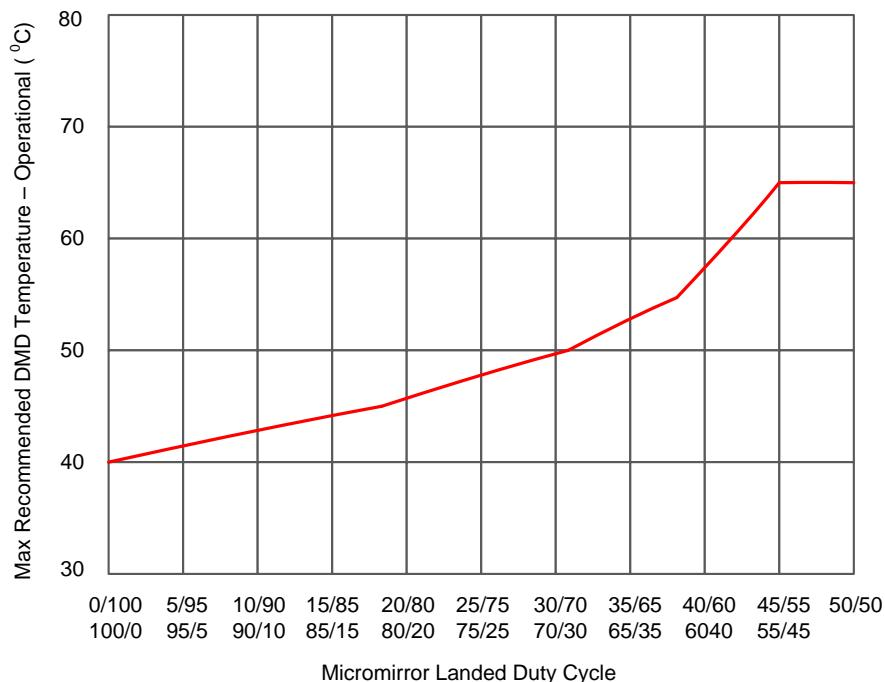

Figure 1. Max Recommended DMD Temperature – Derating Curve
- (15) Long-term is defined as the usable life of the device.
- (16) Per Figure 1, the maximum operational case temperature should be derated based on the micromirror landed duty cycle that the DMD experiences in the end application. Refer to *Micromirror Landed-on/Landed-Off Duty Cycle* for a definition of micromirror landed duty cycle.
- (17) Array and Window temperatures beyond those specified as long-term are recommended for short-term conditions only (power-up). Short-term is defined as cumulative time over the usable life of the device and is less than 500 hours.